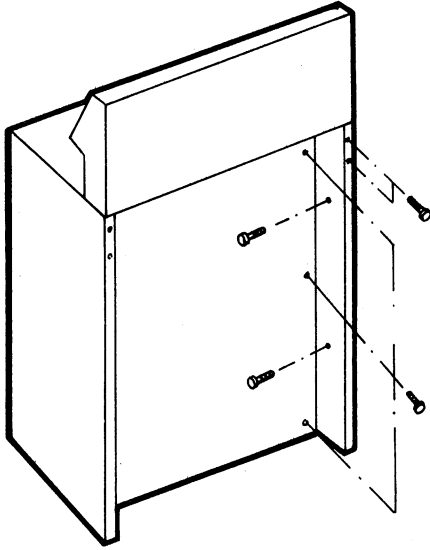

Figure E9
7. Remove the seven screws from the rear of the bodyside. (See Figure E9)